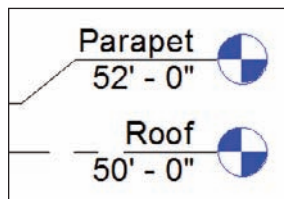

FIGURE 3.16 The Roof and Parapet levels
7. Press Esc. Your levels should look like Figure 3.16.